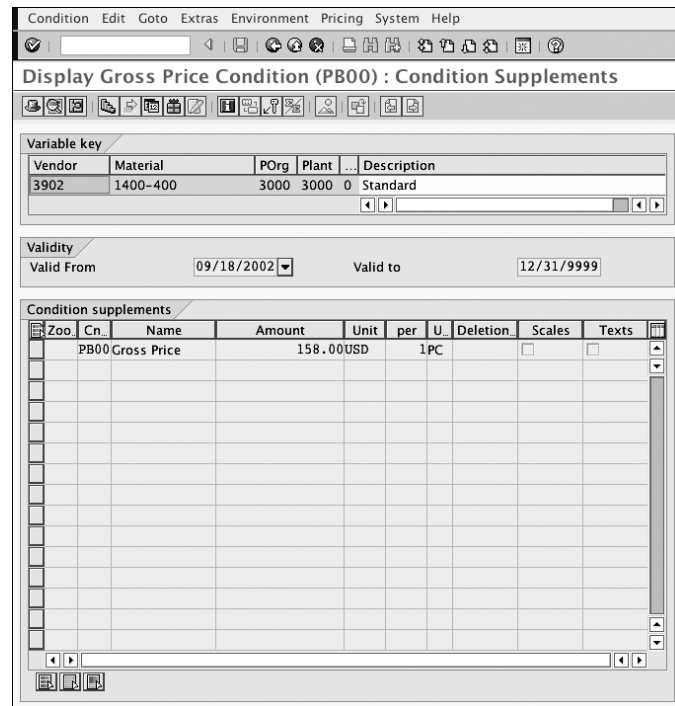

Figure 2.23 Change Gross Price Condition Screen
4. On the CHANGE GROSS PRICE CONDITION screen (see Figure 2.23), enter new conditions as required. For example, for condition FRB1 for freight value, enter the value in your document's currency and press the **Enter** key.